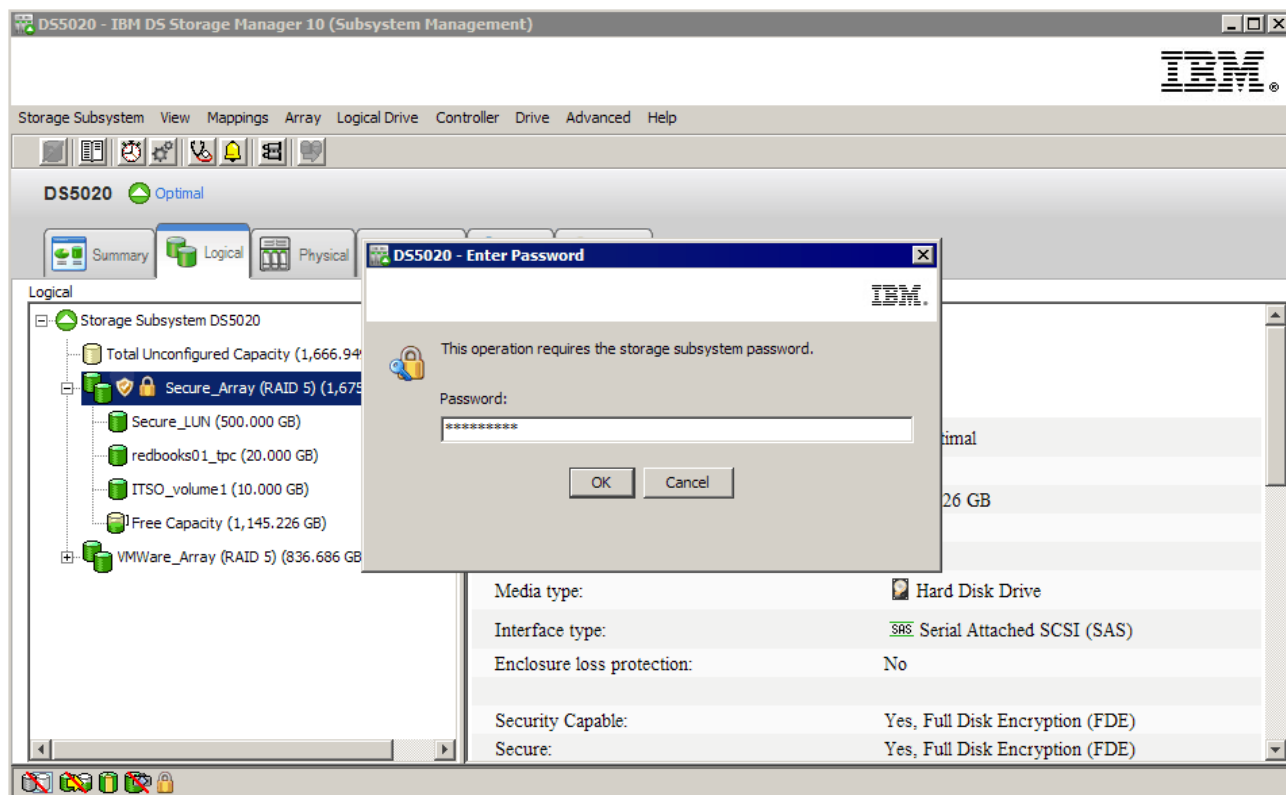

Figure 3-125 Selected array and its members are shown
4. If you did not enter the password for management mode when you opened the Subsystem Window, you will be required to do so now. Enter the password and click **OK** to continue as shown in Figure 3-125.